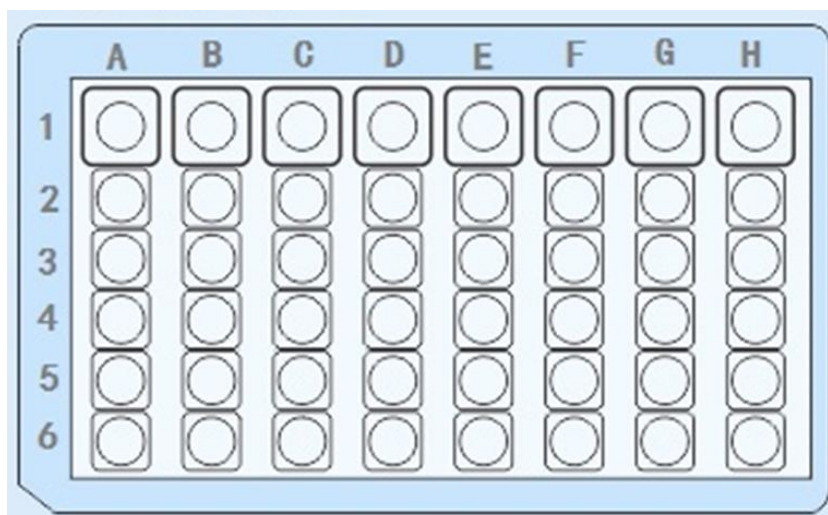

Figure 6.3 Deep Well Plate
**Reminding:** Please confirm that the notch of the deep well plate is outward and in place, as shown in Figure 6.3.